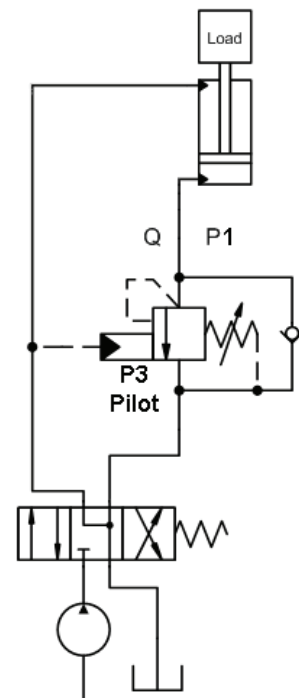
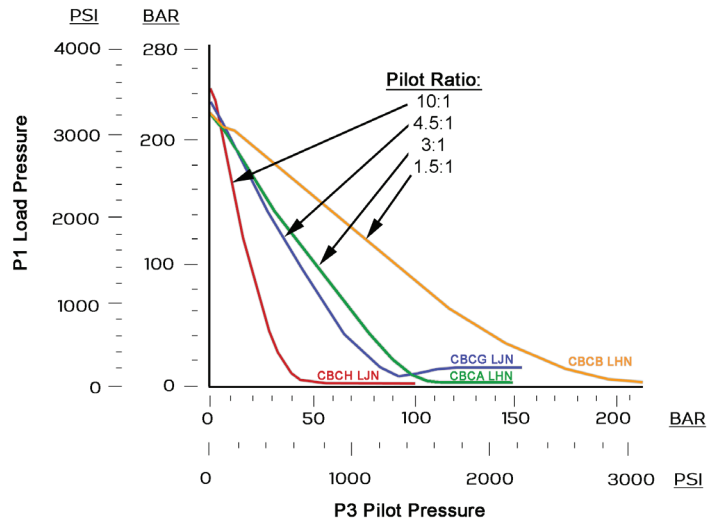
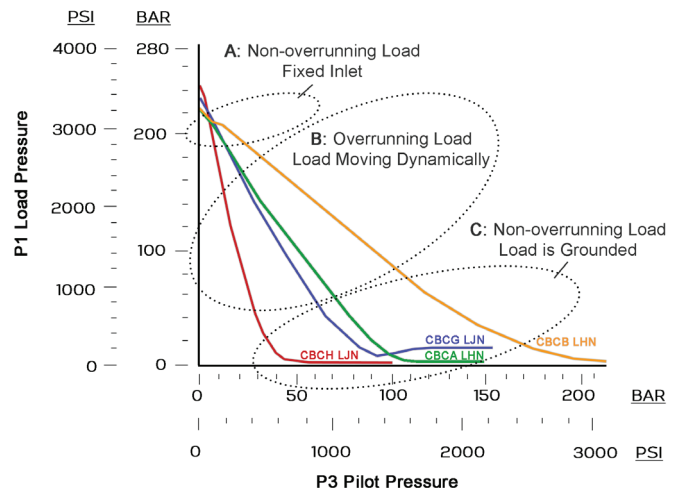
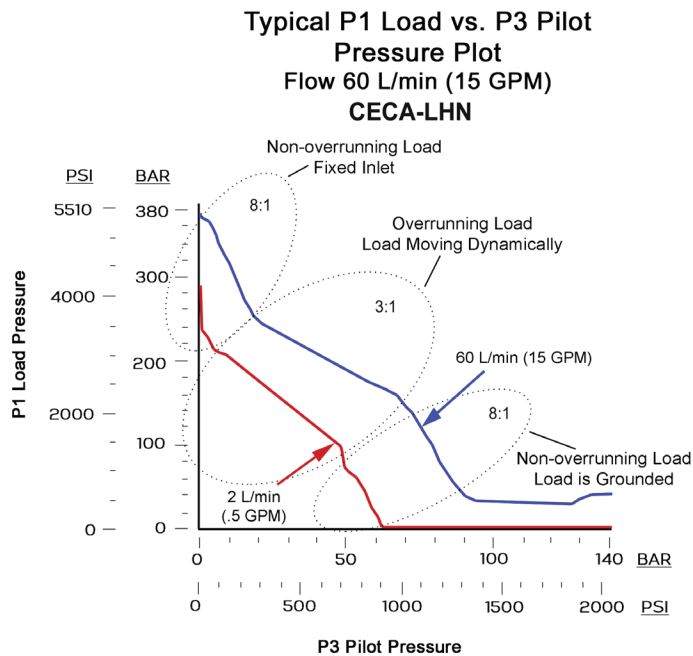

Figure 2
Figure 4
Figure 6
Figure 7
Figure 2 shows a simple load-holding circuit where the counterbalance valve holds the suspended load in place against gravity.
- P1 and P3 are measured and plotted per **Figure 4** for standard CB valves with various pilot ratios.
Note from **Figure 4** that:
Figures 4 and 5 address efficiency. Now let's examine the equally important topic of load stability. **Figure 6** shows three regions of cylinder control stability versus motion for a standard counterbalance valve for the simple circuit of **Figure 2**.
Figure 7 shows P1 vs P3 for a LoadAdaptive counterbalance valve and shows the resulting pilot pressures required to move at 0.5 and 15 gpm (2 and 60 L/min) rates. The valve's relief setting is approximately 5000 psi (350 bar).
The three stability regions of **Figure 6** are also noted in **Figure 7** for reference.
Contrast the curve shapes of **Figure 7** against those shown in **Figures 4-6**. The LoadAdaptive CB valves exhibit two distinct “knees” in the curve, indicating three distinct slopes and therefore three distinct effective pilot ratios. **Figures 4-6** show just one slope and pilot ratio. The upper and lower portions of the curves have a pilot ratio of approximately 8:1 (better efficiency). The middle portions of the curves have a pilot ratio of approximately 3:1 (better stability). This curve shape results in an energy savings of approximately 30% with respect to the standard counterbalance valve as demonstrated by the following laboratory example.